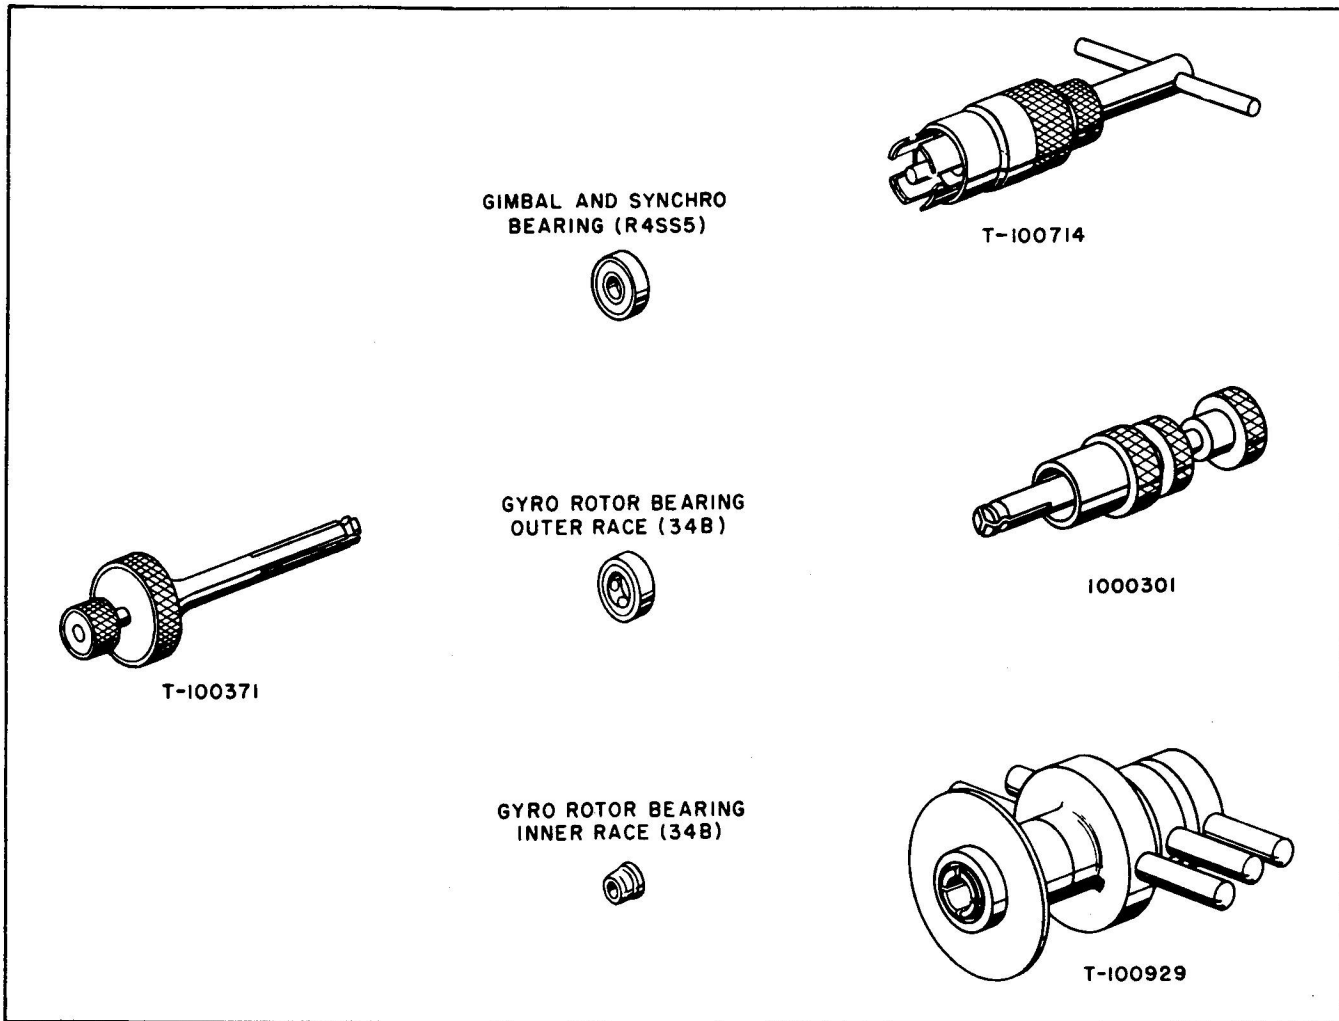

Figure 2-9 Bearing Pullers
the leveling torque motor stator winding or the slip ring assembly. See paragraph 2(e) and figure 2-9 for information pertaining to the removal of ball bearings.
(1) Use Bearing Puller T-100714 to remove the gimball bearings when the bearing is on the pivot. (See figure 2-9.)
(2) Use Bearing Puller T-100371 to remove the gimball bearings when the bearing is in the housing.